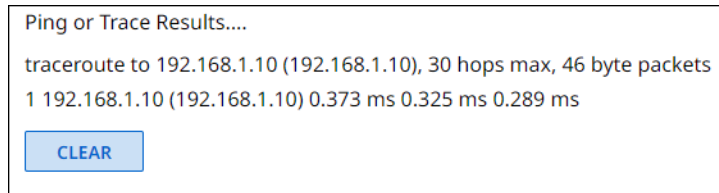

Figure 37. Trace Results Shown
- **Trace** — Traces the network route taken by a packet from source to destination and displays the network packet path as it traverses the network. If a trace is not fully successful, the diagnostic displays where the packet was last successful before it stopped and can no longer communicate to the next hop. Figure 37 shows the typical results of a Trace diagnostic.